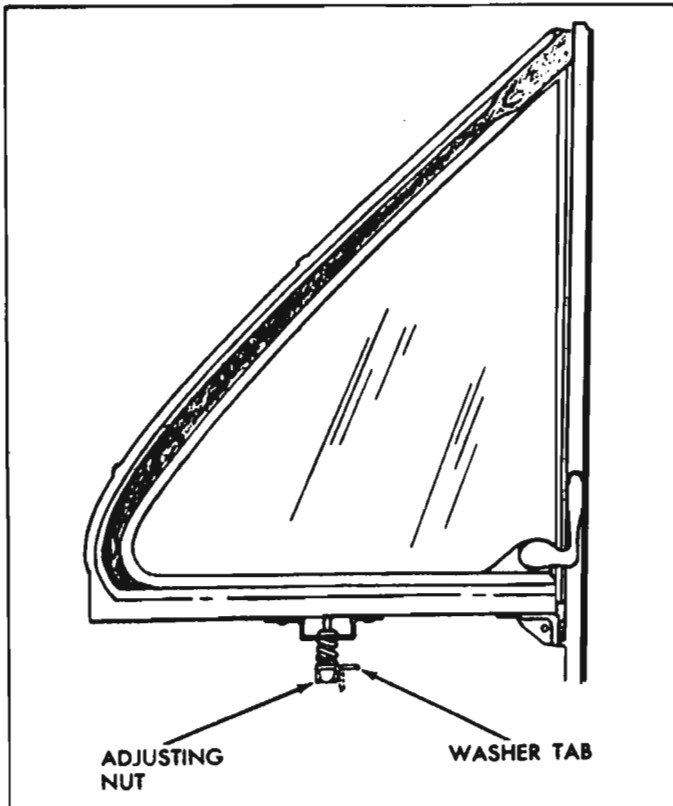

Fig. 10-52—Ventilator Friction Adjustment
2. The effort required to open or close the ventilator may be increased or decreased by bending up washer tab and tightening or loosening the adjusting nut (fig. 10-52).